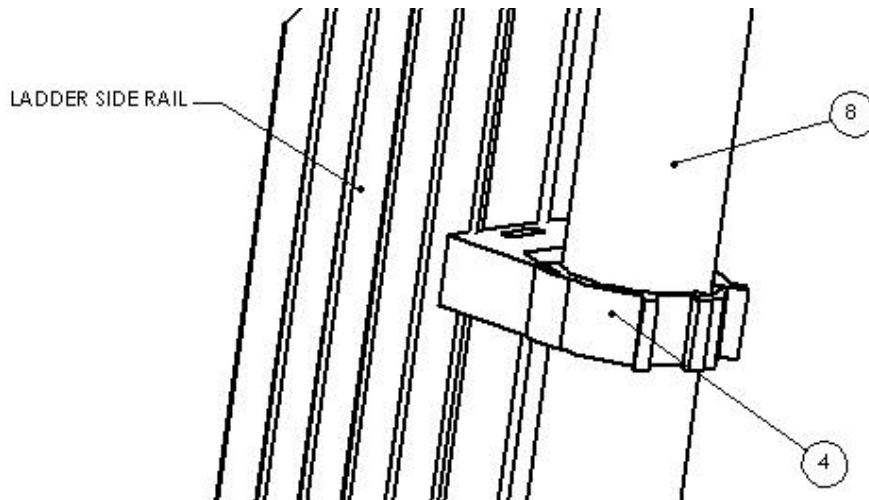

Figure 14
- 17) Starting with the top hose clamp, insert the PVC hose into the clamps as shown below in Figure 14. The clamps automatically tighten when pressure is applied pushing the hose into the clamps.